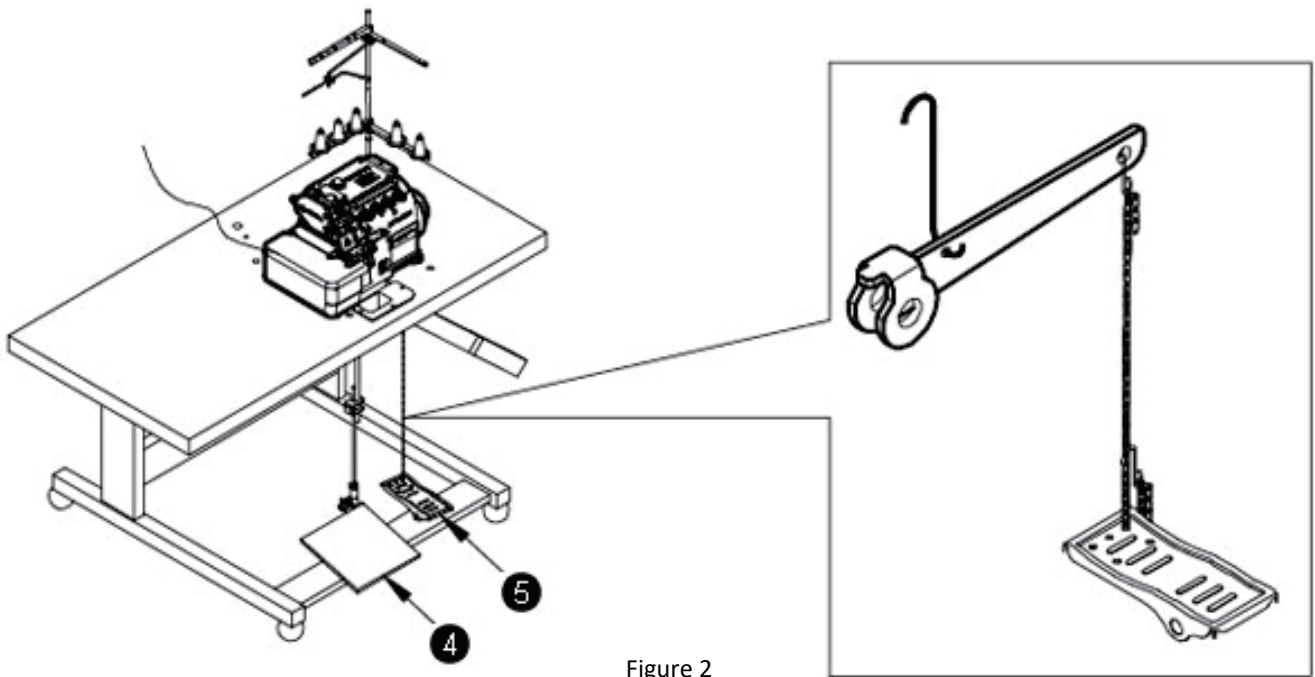

Figure 2
- Install the pedal of motor (4)(Fig. 2) on the left side, and the pedal of presser foot lift (5) on the right side.